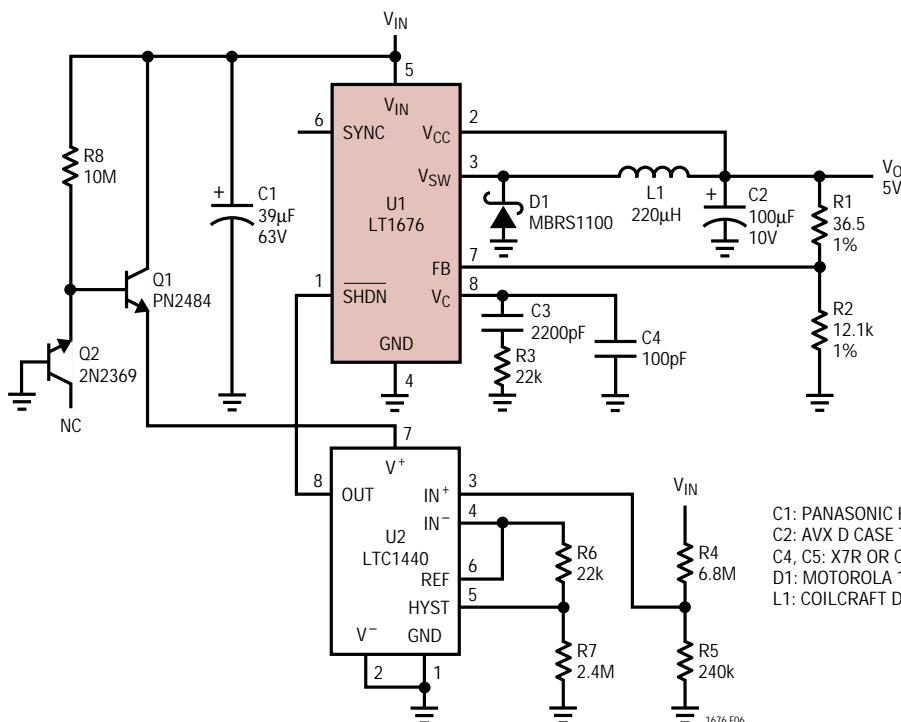

Figure 6. Micropower Undervoltage Lockout
Certain applications may require very low current drain when in undervoltage lockout mode. This can be accomplished with the addition of a few more external components. Figure 6 shows an LTC®1440 micropower comparator/reference added to control the LT1676 via its SHDN pin. The extremely low input bias current of the CMOS comparator allows the impedance of the resistor divider R4/R5 to be increased, thereby minimizing power drain. Hysteresis is externally programmable via resistor divider R6/R7. The LTC1440 output directly controls the LT1676 via its shutdown pin, driving it to either 5V (ON) or 0V (Full Shutdown). A simple linear voltage regulator to power the LTC1440 is provided by Q1, Q2 and R7. Just below the UVLO threshold, nominally 43V, total current drain is typically 50µA.